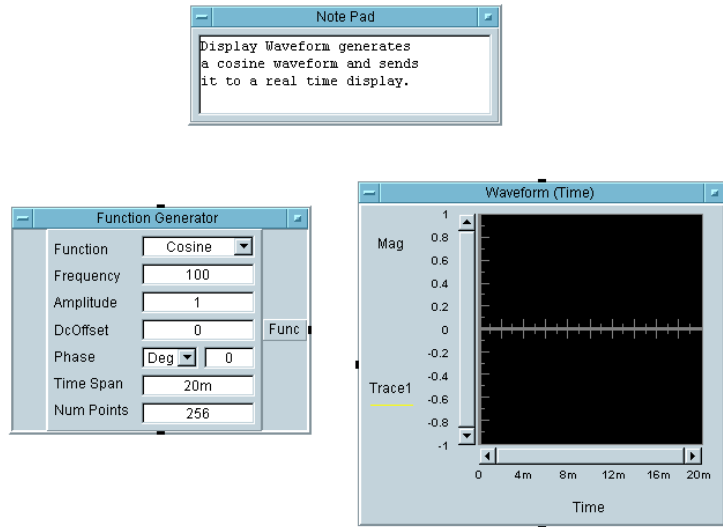

Figure 1-25. Creating a Program
3. Add the *Waveform (Time)* object. Select *Display* ⇒ *Waveform (Time)* and place the object to the right side of the work area as shown in Figure 1-25.
In Figure 1-25, the **Func** label on the Function Generator object denotes a **data output pin**, and the **Trace1** label on the Waveform (Time) object denotes a **data input pin**. In VEE programs, you connect the data pins among the objects, and this determines the flow of the program.